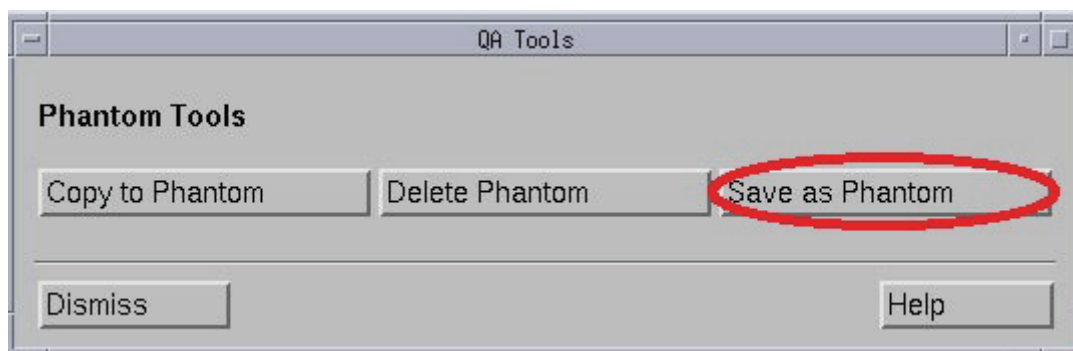

Fig. 2.13 Saving as Phantom the QA phantom
11. Click the **Save as Phantom** button (Figure 2.13).